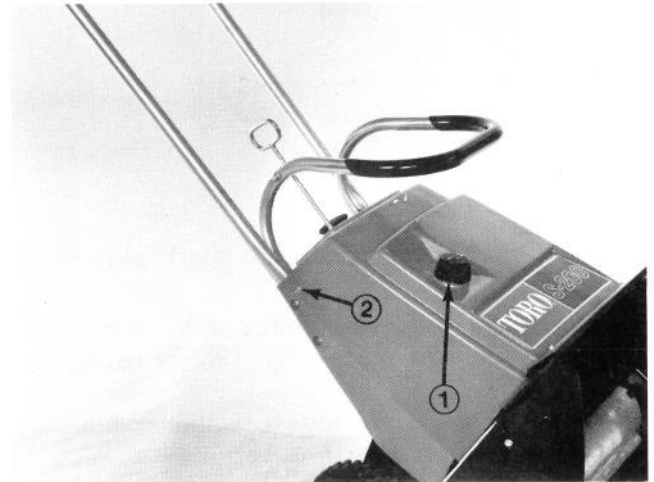

Figure 19
2. Remove cap from snowthrower fuel tank (Fig. 19).
3. Remove two self tapping screws holding sides of upper shroud; then remove shroud (Fig. 19). Reinstall cap on snowthrower fuel tank.
8. Remove cap from snowthrower fuel tank and set upper shroud in place (Fig. 19). Reinstall cap on fuel tank.
10. Insert front panel into grooves of upper shroud. Secure sides of upper shroud with two 12.7 mm long self tapping screws (Fig. 19).